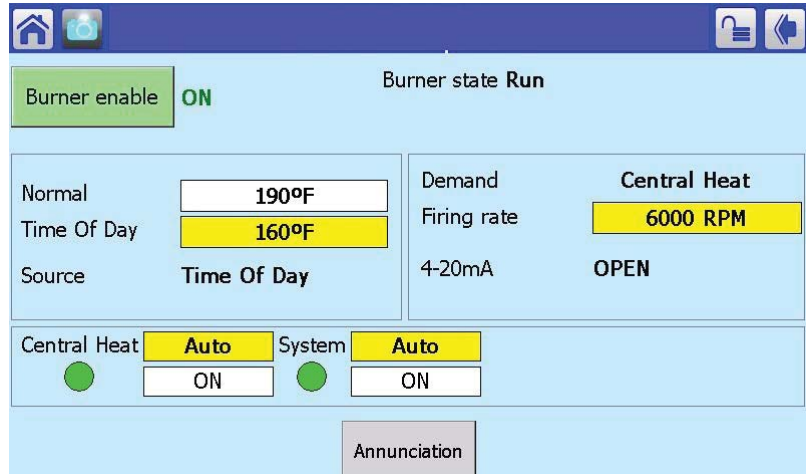
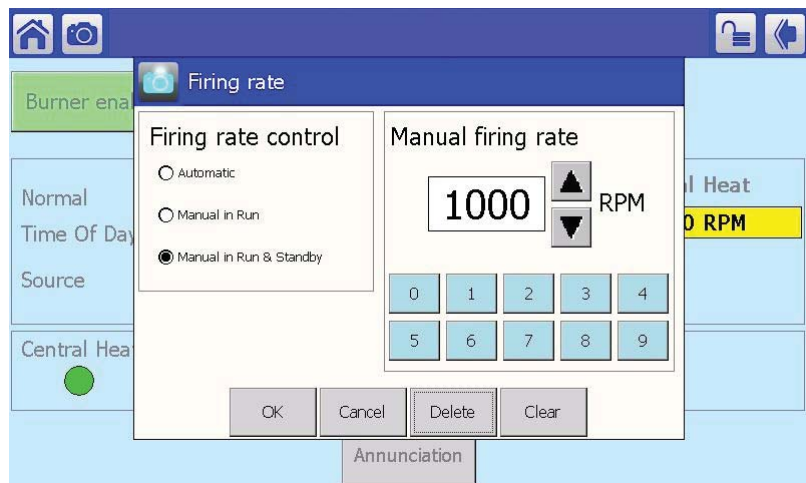

FIGURE 13 - CENTRAL HEAT OPERATION SCREEN
FIGURE 14 - CENTRAL HEAT OPERATION - FIRING RATE SCREEN
4. From the test fire sheet verify what was used for a low fire RPM setting. Input this setting into the Sola manual firing rate (Figure 14). Once the boiler is at this RPM check combustion. Unless the combustion is way out of the range from the test fire sheet proceed slowly to the high fire RPM point. Once at high fire take a combustion reading.
SOLA "manual firing rate" screen (Figure 14).
1. Access this screen (Figure 13) by pressing the Operation button from the Status Summary Screen. From the Central Heat Operation screen you will be able to change the boilers Setpoint by pressing the yellow box next to Normal. If the firing rate needs to be changed from auto to manual
for maintenance and/or commissioning purposes (to be able to run the boiler anywhere in the firing range) you would press the yellow block next to Firing Rate. Pressing Firing Rate will put you into the screen shown in Figure 14. When the Setpoint or Firing Rate requires changing, a password is required. Once the password is entered correctly, the top right section of the screen will show the padlock unlocked as shown in Figure 13. See Figures 14 and 15 for changing the Setpoint and Firing Rate.
In this screen (Figure 14) the control can be changed from Automatic to Manual. When in Automatic, the control will go to the firing rate necessary to achieve the setpoint. When in Manual, the control will go to the point that is entered into the Manual Firing Rate box; specific RPMs can be entered. After a firing rate is entered, press OK and the Firing Rate Screen will close and the boiler will go that selected firing rate. When finished with maintenance, return to this screen and place the boiler back into Automatic mode.